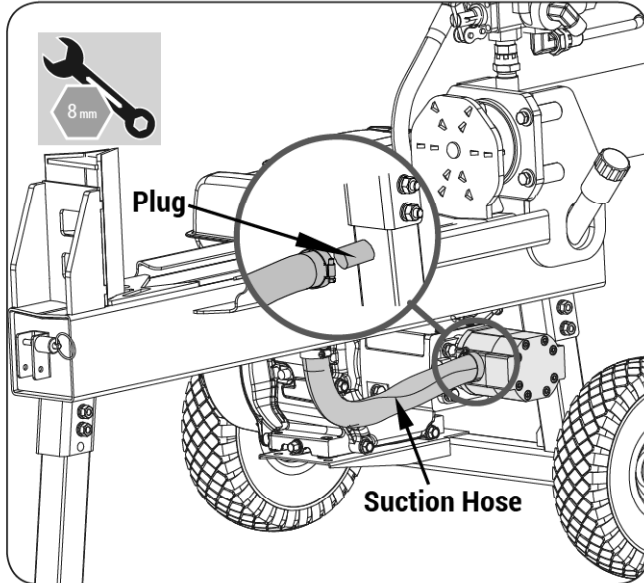

Figure 11
2. Slide suction hose onto the fitting on the pump and tighten clamp. (See **Figure 11**)